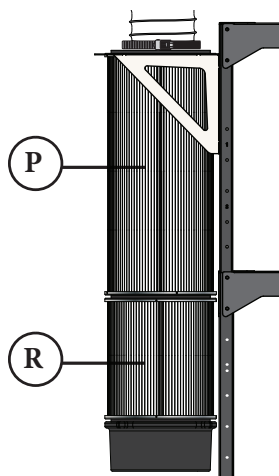

FIG. 11a
Filters should be oriented so that the larger Filter (P) is on top; Incorrect orientation can place unnecessary strain on the smaller Filter (R) [FIG. 11a].